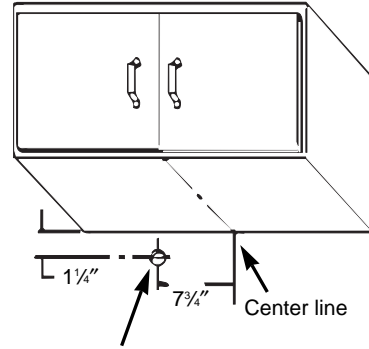
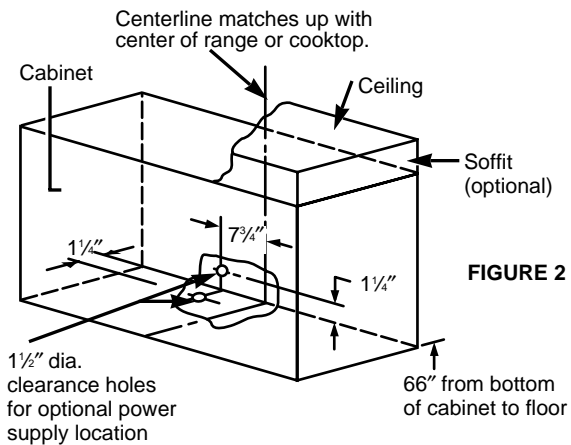

FIGURE 1
FIGURE 2
**NOTE:** For easier installation make all hood and vent cutouts in the cabinet and wall before cabinet is permanently fastened in place. It is recommended that the power supply be brought into the hood from the wall below the cabinet as shown in Fig.1. However, an optional location is shown in Fig. 2, where the power supply enters the top of the hood by passing through the wall cabinet.